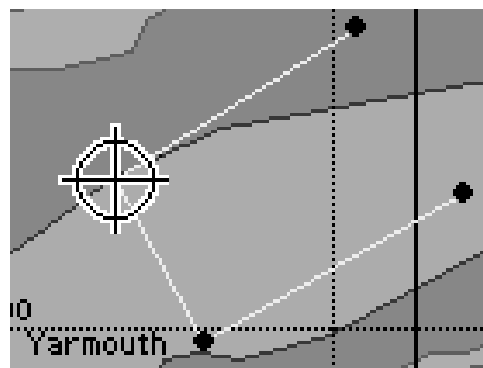

Figure 6.39c MOVEMENT menu (3)
- (9) Press the ENT key to fix the position. (Figure 6.39c)
- (10) To return to the normal display, press the MENU key 4 times.